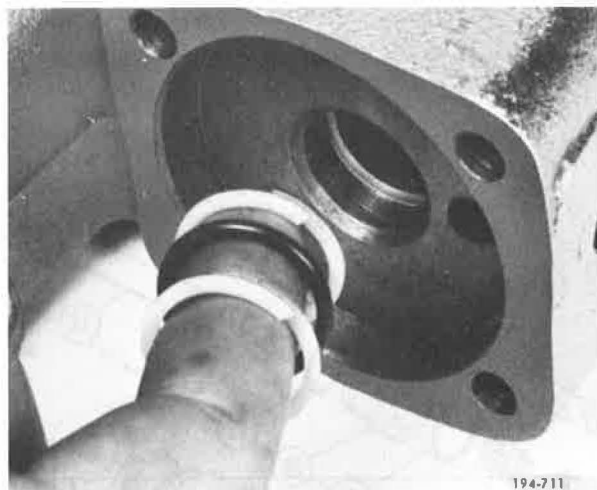

Figure 5-867. Installing O-ring and Teflon Rings
1. Install o-ring and two Teflon rings in both the reverse opening and the Hi/Direct opening of shift cover. See **Figure 5-867**.